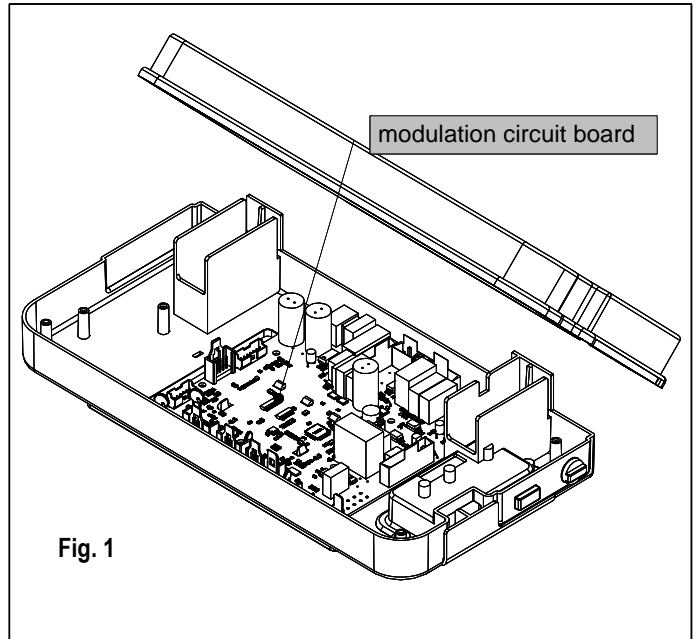

Fig. 1
### Primary heat exchanger (see fig. 1)
- slacken the screws and remove plate A from the control panel (see fig. 1). With the plate removed, proceed with the following wires connection: